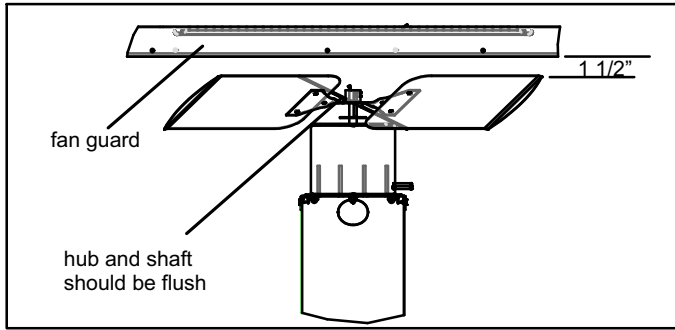

FIGURE 13
All 15CHP (X) units use single phase condenser fans. Specifications for the condenser fans are at the front of this manual. See figure 13 for fan and motor replacement dimensions.